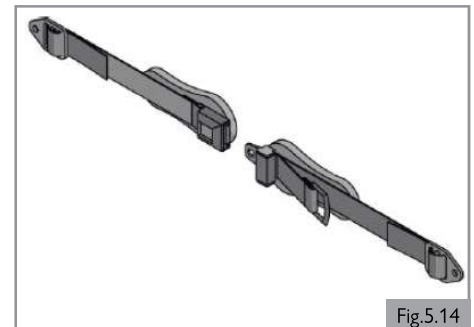

Fig.5.14
5.6 Lap belt / seating positioning belt (Fig. 5.14)